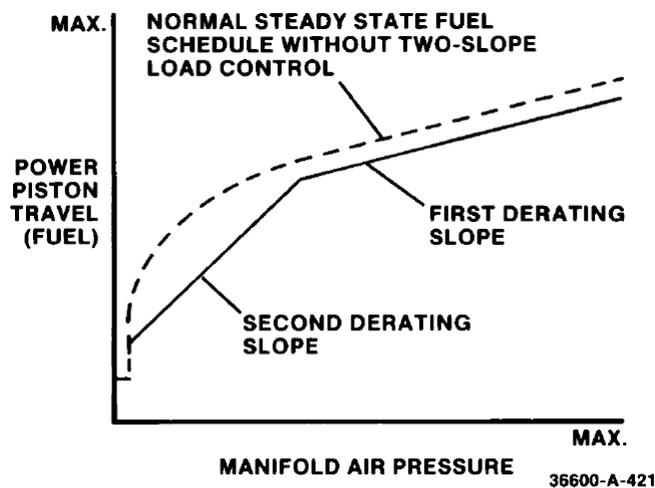

Figure 1-5. Typical Two-Slope Load Derating Curve
The two-slope load control bias linkage biases the basic load control system and reduces the load on the engine as a function of manifold air pressure. The governor reduces engine fuel to provide a proper fuel/air ratio for efficient burning. Figure 1-5 illustrates a typical two-slope load biasing (derating) curve, Note in Figure 1-5 derating occurs along two different slopes which generally parallel the normal power (load) curve.
Figure 1-5 shows the derating slope to be more acute along the lower one-third of the normal power curve than along the upper two-thirds. This is due to the different ratios of bias lever movement transmitted through the derating adjustment screws to the load control floating lever.
21. Regulate air pressure to specified (higher) value of manifold air pressure where derating along the first slope is to begin (see Figure 1-5). Position power piston at specified travel corresponding to that air pressure.